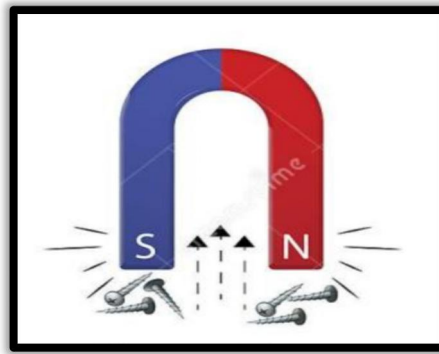

Figure 2.5 Magnetic force acting on the conductor nail
- Force exerted on a magnetic object, **acting between the magnetic poles of two magnets**, as shown in **Figure 2.5**.